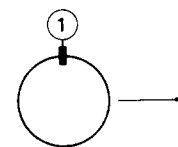
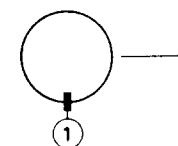

Fig. 4a
Fig. 5a
3. Eliminate the crossing of the central horizontal blue and red line and the crossing of the central vertical blue and red line, by vertical tilting of the deflection unit. If the position of the deflection unit is correct, then place rubber wedge ①, paper strip not removed, at the top (Fig. 4a) or at the bottom (Fig. 5a).
Fig. 4a is applicable if the deflection unit is tilted upwards and Fig. 5a if the unit is tilted downwards.